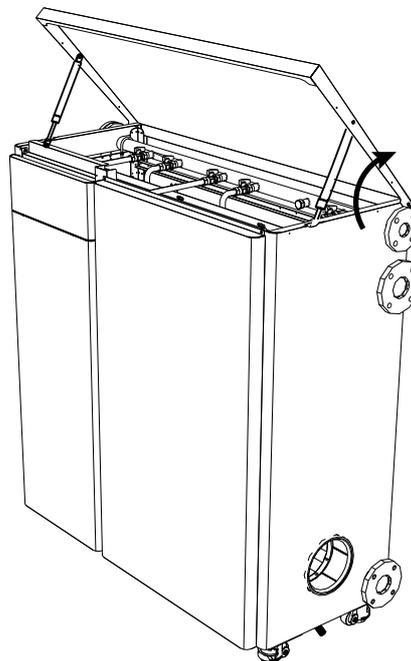

fig. 104
- 3.Lift the cover (See fig. 104)